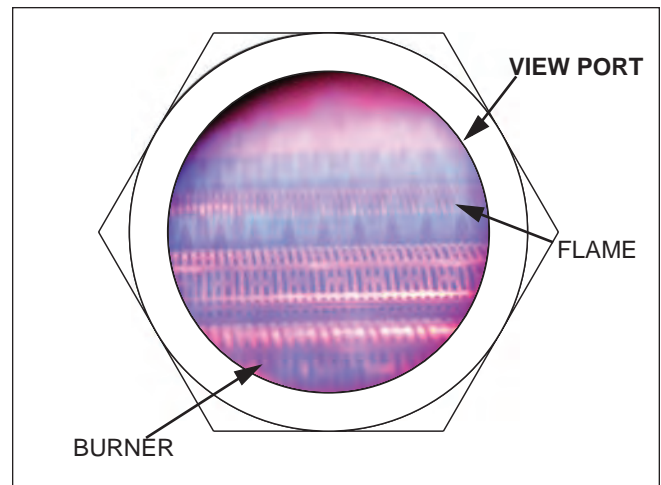

Figure 32. Flame view
12. Make a visual check of the main burner flame. The flame can be seen in a view port on the lower right side of the heater. The flame should be light blue in color and short (see Figure 32). If flame appearance is otherwise, adjustment is necessary as described in the following section.